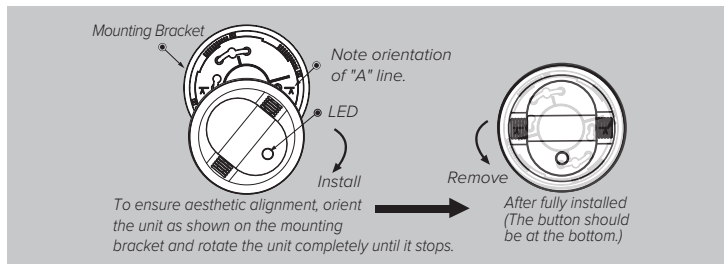

Figure 9-F
- Install the alarm fully on the mounting bracket by rotating the alarm in a clockwise direction (Figure 9-F).